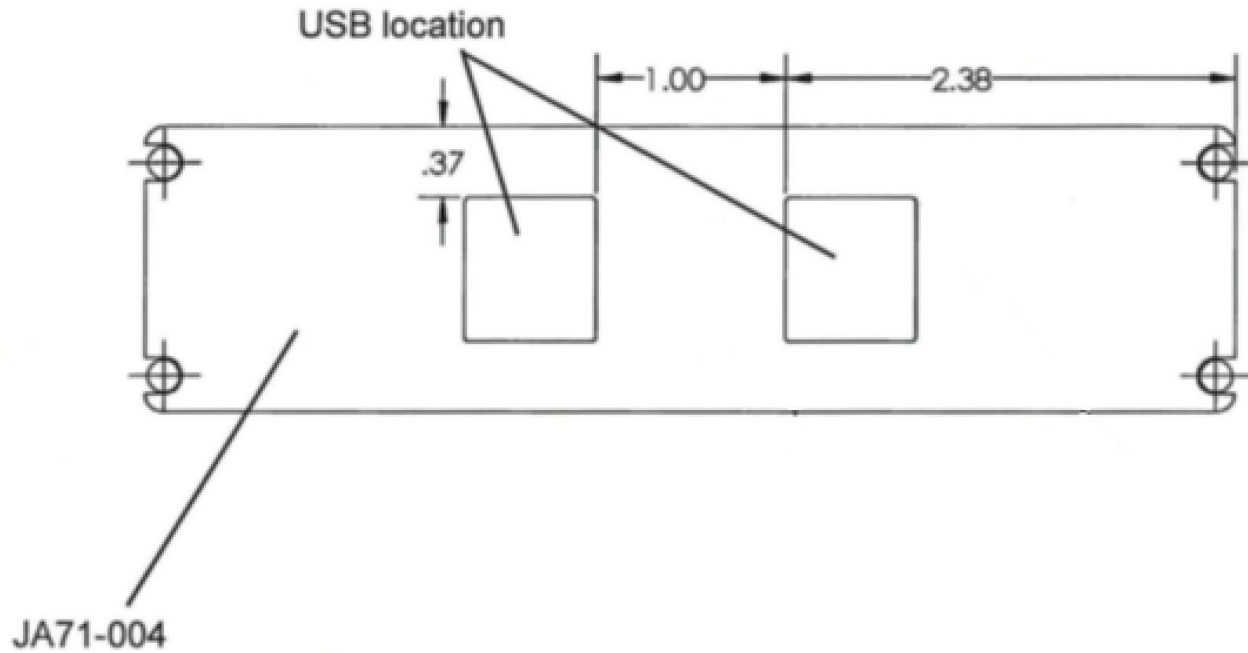

Figure 3 - (-011) USB Charger Location
1. Modify Dzus blanking panel (Jupiter Avionics, P/N JA71-004), as shown in Figure 3.